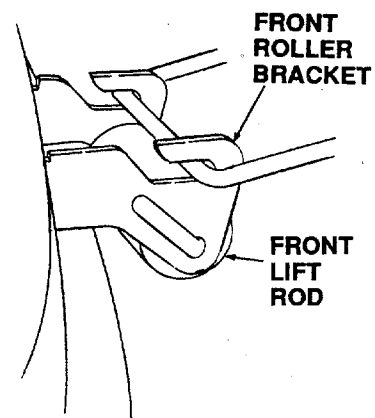

Figure 50
5. While holding the front lift rod up, slide the mower deck forward until the rod aligns with both front roller bracket slots. Lower the lift rod into the front roller bracket slots and slide the deck rearward to engage the lift rod fully forward in the slots of the deck front roller bracket (Refer to Figure 50).